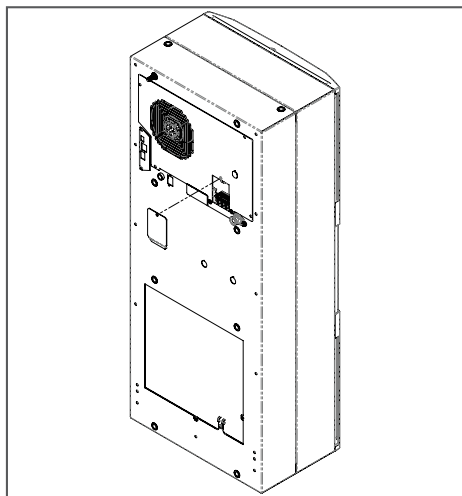

Figure 1
1. Loosen the screw on the evaporator access panel and remove the power access panel, see Figure 1